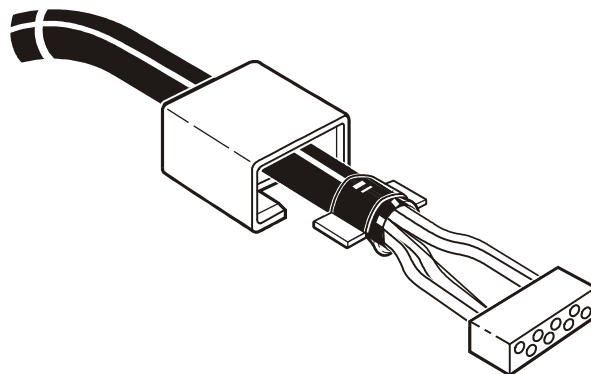

Figure 43 – Preparing the conductors for insertion into the RJ45 connector
2. Pull the management bar to the ends of the conductors, as shown in Figure 43.